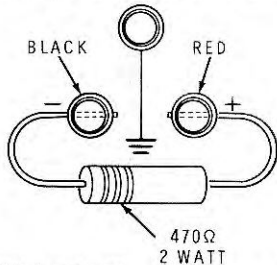

Figure 6
- () Refer to Figure 6 and insert the leads of the 470 ohm, 2 watt, resistor in the black and the red binding post bases. Tighten the binding post caps down on the two leads.